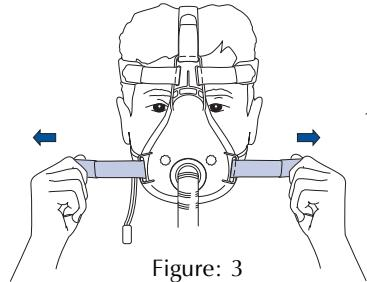
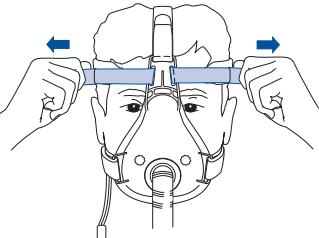

Figure: 3
Figure: 4
**4** Tighten the side lower (Fig. 3) and then the side upper Velcro straps (Fig. 4) to achieve a secure and comfortable fit.